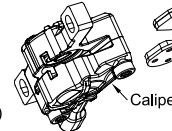
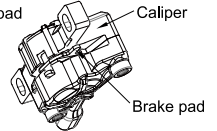

FIG.6
FIG.7
- Replace a new pad (as shown in FIG.6) and return it back 90° degrees positioning. (As shown in FIG.7).